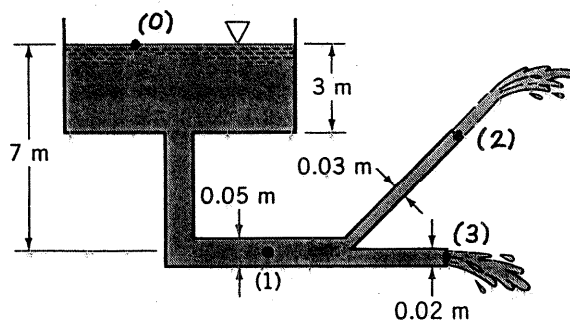

FIGURE P3.83
3.83 Water flows from a large tank through a large pipe that splits into two smaller pipes as shown in Fig. P3.83. If viscous effects are negligible, determine the flowrate from the tank and the pressure at point (1).